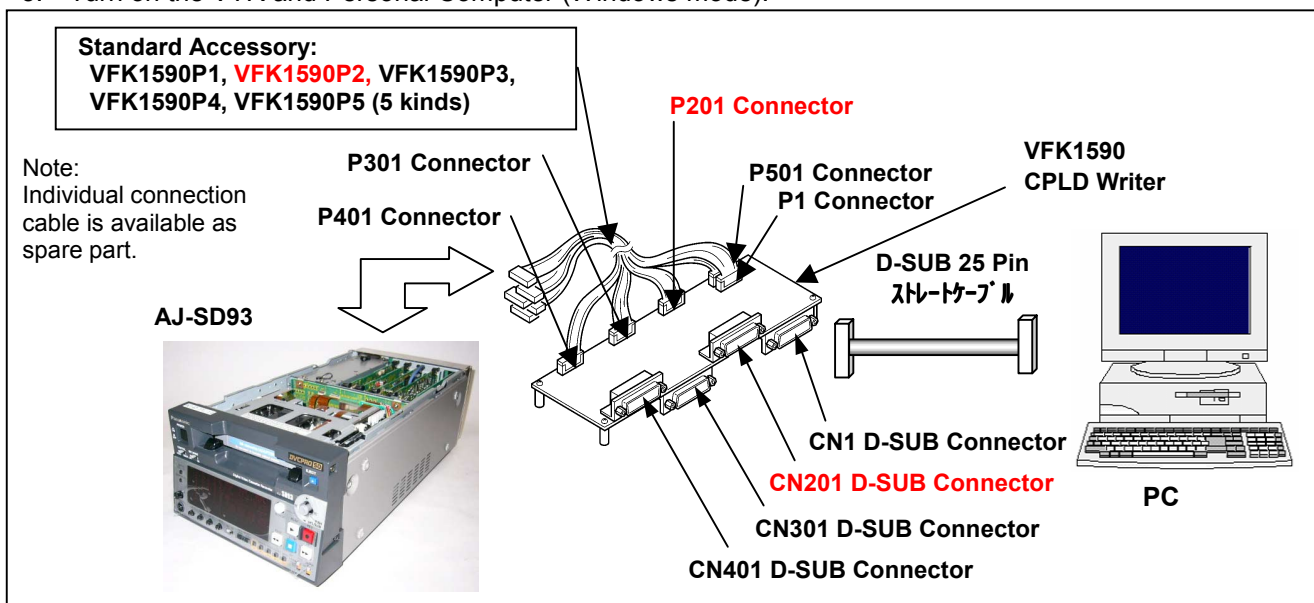

Figure 12-2E-2
2. Connect the CPLD WRITER Cable (VFK1590P2) between P201(for ALTERA) connector and P250 connector on the SERVO Bord in the VTR as shown in figure 12-2E-2 and table 12-2E-3.